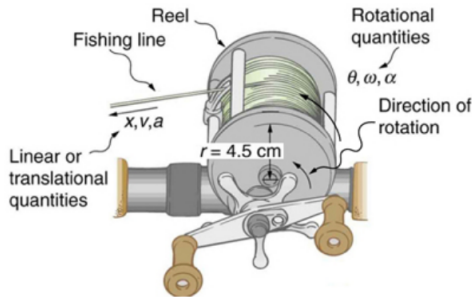

Figure 1: From the definition of a radian we may derive angular velocity and acceleration.
2. Consider Fig. 1. Suppose we are fishing off the pier into the Pacific ocean. (a) We are hauling up a 10 kg fish, but the reel breaks and the fish falls freely. If the radius of the reel is 4.5 cm, what is the angular acceleration of the reel? (b) How long before the reel has spun 100 times? (c) What is the final angular velocity?